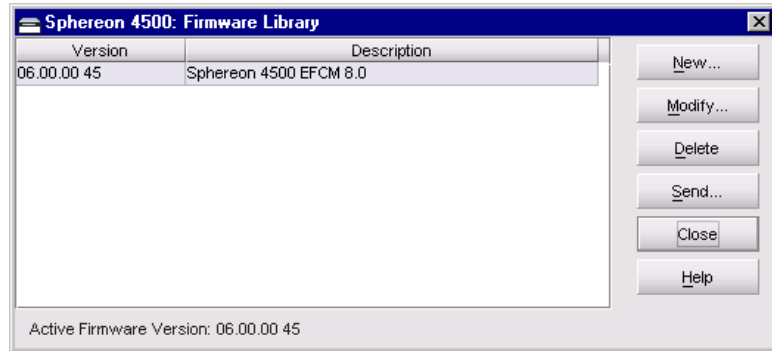

Figure 4-53 Firmware Library Dialog Box
3. Select the *Firmware Library* option from the *Maintenance* menu. The *Firmware Library* dialog box displays (Figure 4-53).